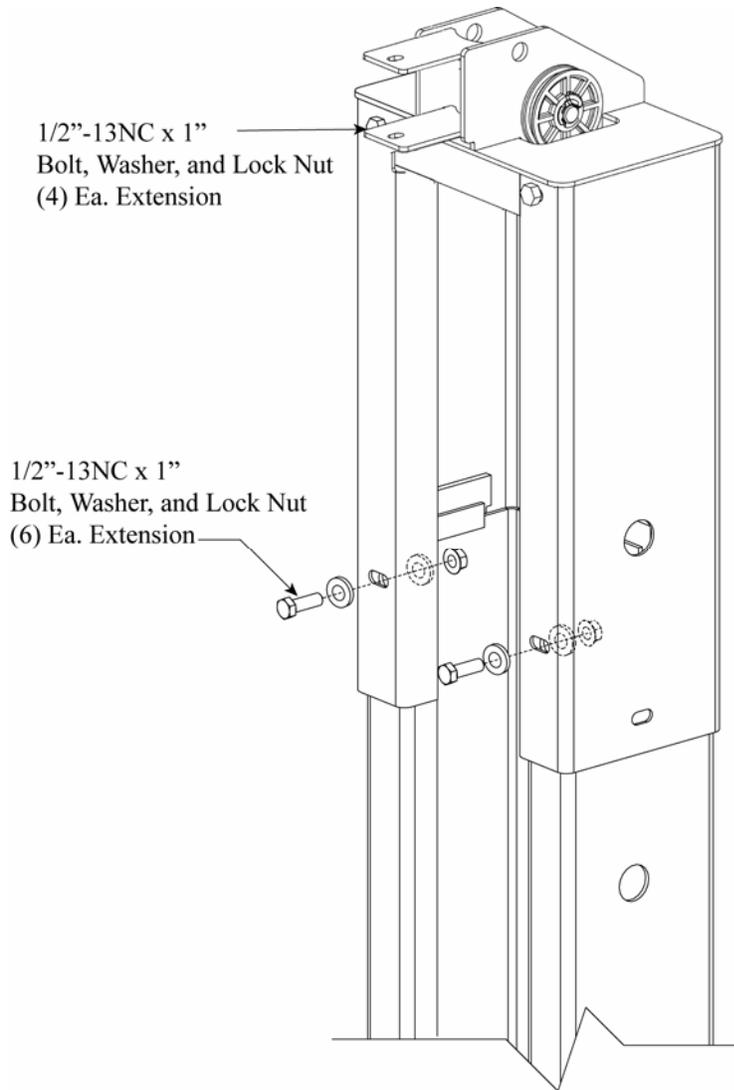

Figure 3
4. **Attach the uprights.** Attach the uprights to the legs using six 1/2"-13NC X 1" bolts, flat washers and lock nuts as shown in figure 3.